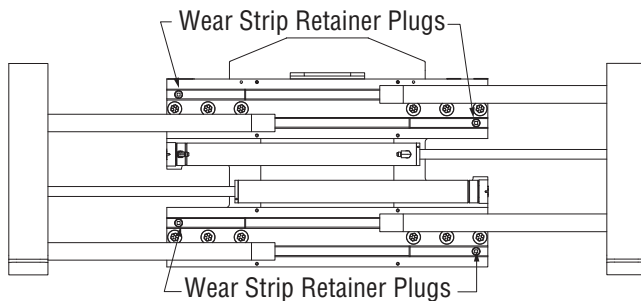

Figure 5-14, Arms Open
3. Turn on the truck's power and extend the arms outside the body. The wear strips where the plugs were removed will then be able to slide out. (Figure 5-14)